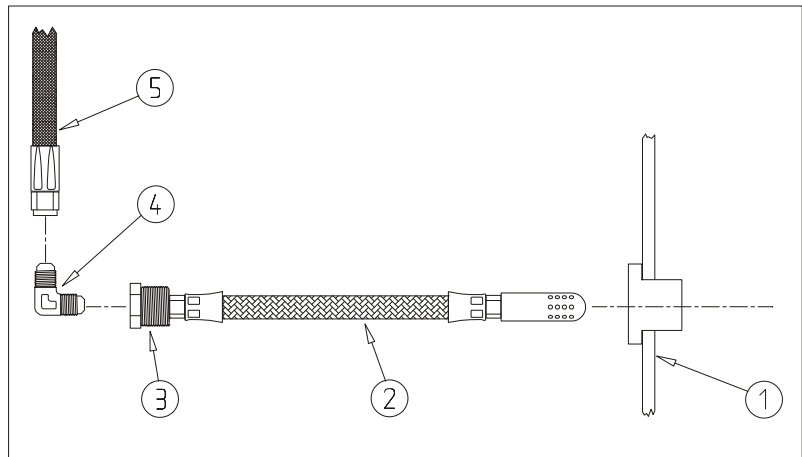

Figure 3
- 2 Disconnect the hose (5, figure 3) and the elbow fitting (4).
- 4 Loosen the flop tube fitting (3) and take the flop tube assembly (2) out of the acro tank (1).